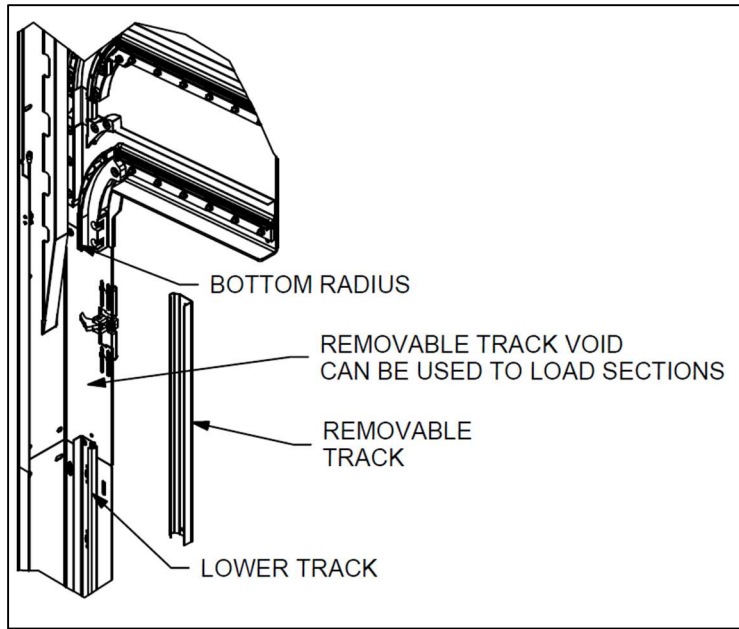

Figure 24– REMOVABLE TRACK
66. Attach the removable track section, using the supplied track bolts and nuts and as shown in **Figure 24**, ensuring the upper and lower track joints are smooth.